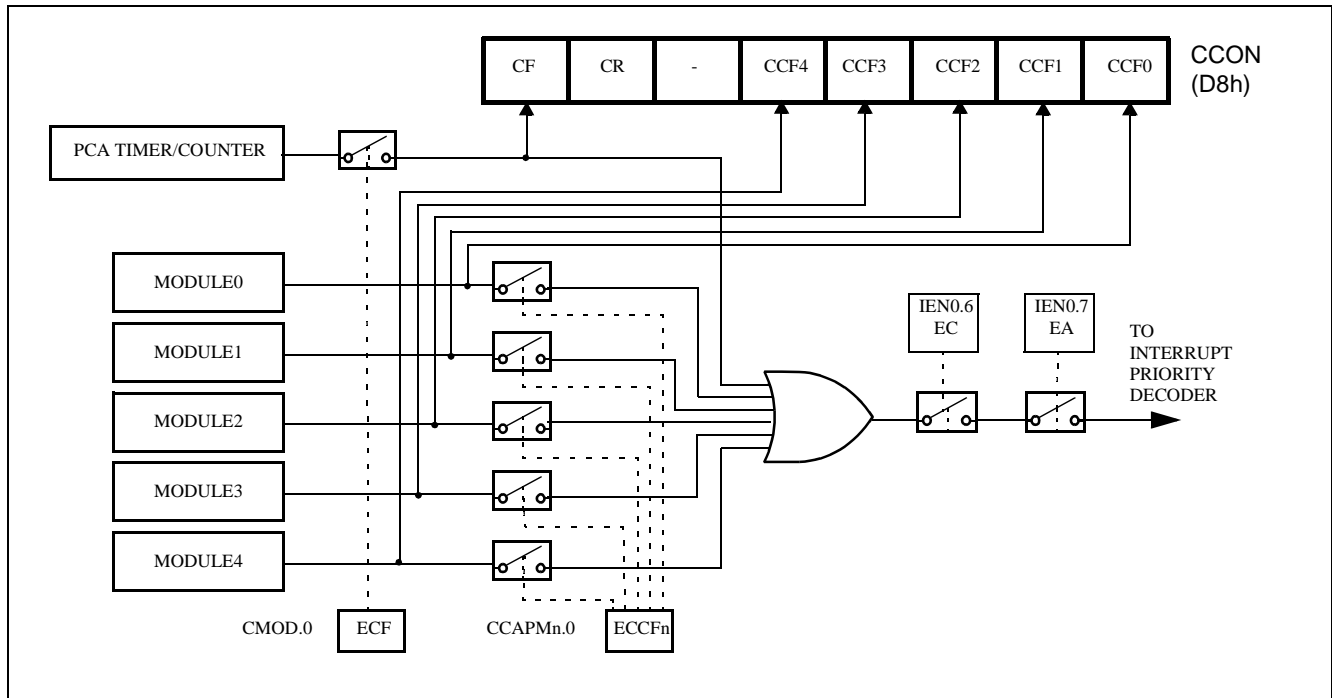

Figure 66: PCA Interrupt System
The CCON SFR contains the run control bit for the PCA (CR) and the flags for the PCA timer (CF) and each module (CCF4:0). To run the PCA the CR bit (CCON.6) must be set by software. The PCA is shut off by clearing this bit. The CF bit (CCON.7) is set when the PCA counter overflows and an interrupt will be generated if the ECF bit in the CMOD register is set. The CF bit can only be cleared by software. Bits 0 through 4 of the CCON register are the flags for the modules (bit 0 for module 0, bit 1 for module 1, etc.) and are set by hardware when either a match or a capture occurs. These flags can only be cleared by software. All the modules share one interrupt vector. The PCA interrupt system is shown in Figure 66.
The ECCF bit (from CCAPMn.0 where n=0, 1, 2, 3, or 4 depending on the module) enables the CCFn flag in the CCON SFR to generate an interrupt when a match or compare occurs in the associated module (see Figure 66).